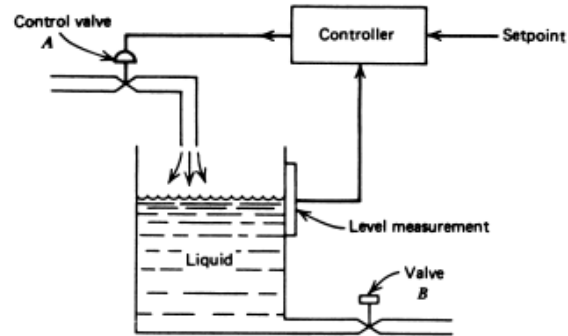

Fig Q3A
- 3A. Consider the proportional-mode level-control system of Figure Q3A. Valve A is linear, with a flow scale factor of $10\text{m}^3/\text{hr}$ per percent controller output. The controller output is nominally 50% with a constant of 10% per %. A load change occurs when flow through valve B changes from $500\text{m}^3/\text{hr}$ to $600\text{m}^3/\text{hr}$. Calculate the new controller output and offset error. **3**